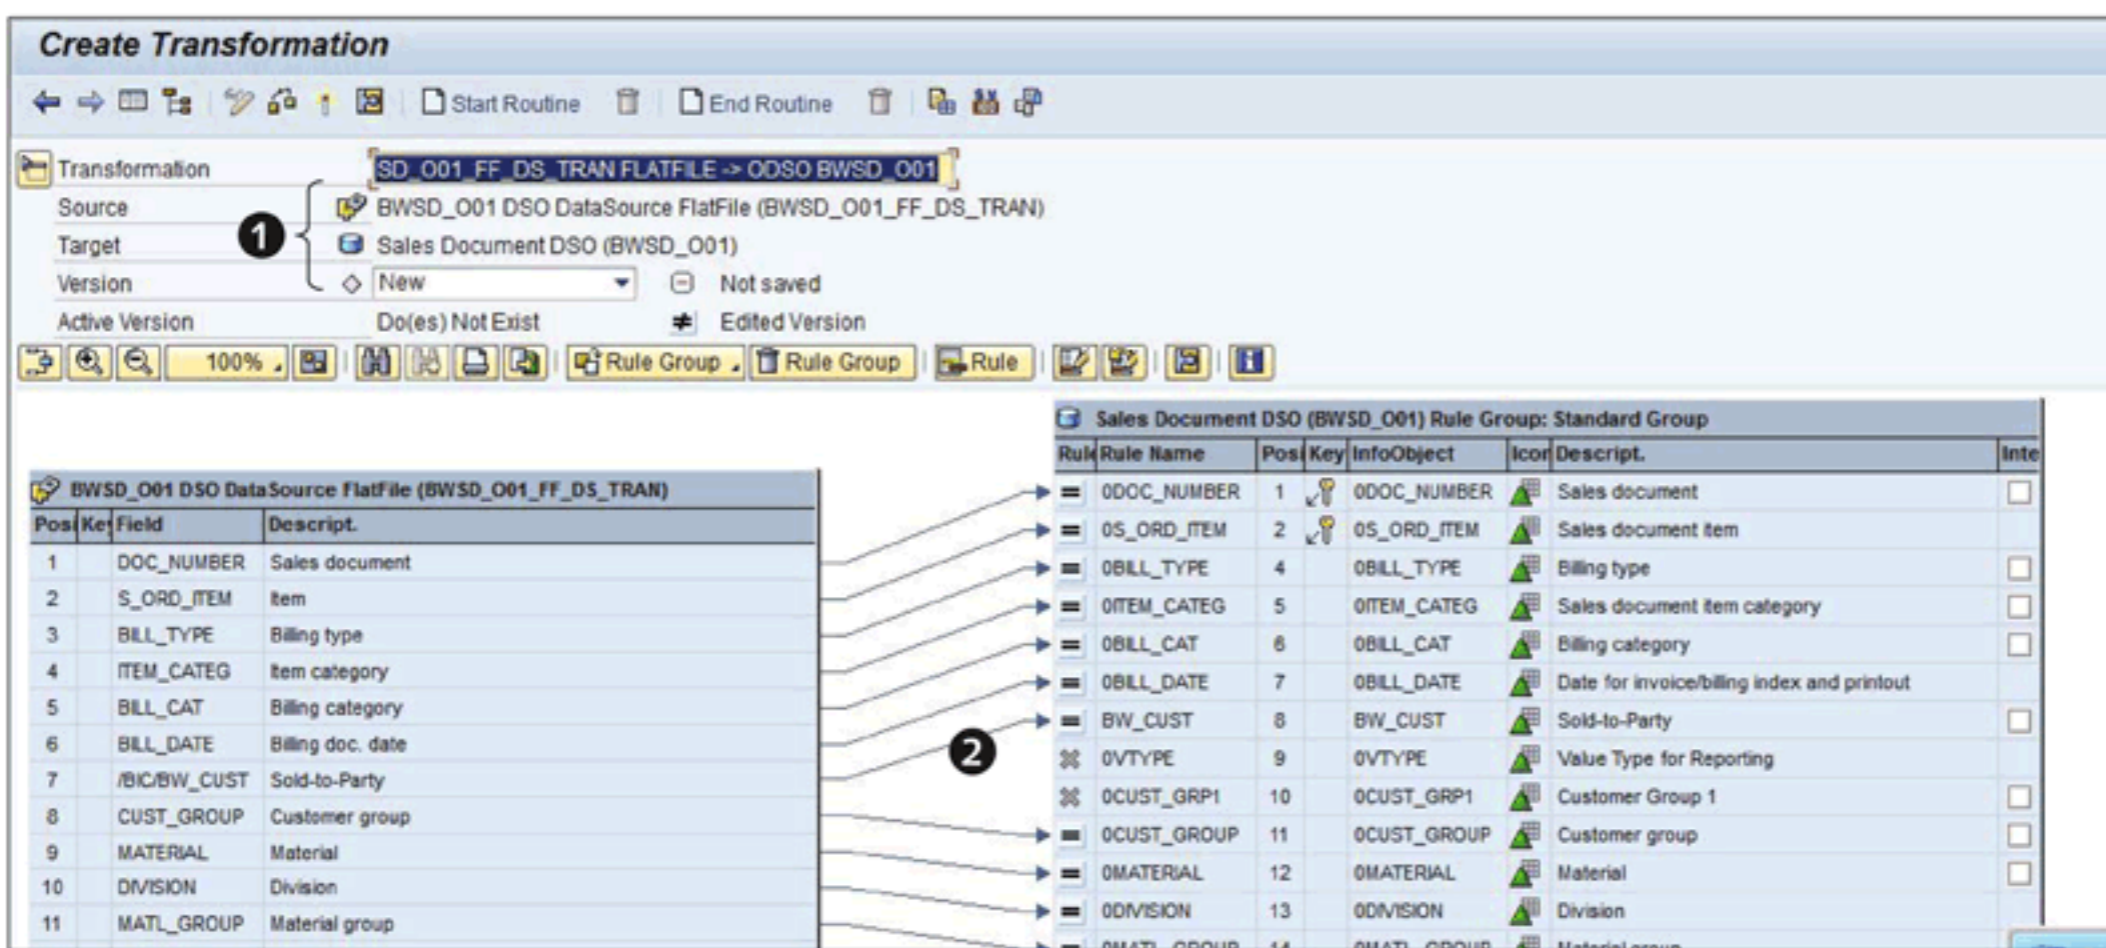

Figure 7.55 Creating a Direct Assignment Transformation
This results in the TRANSFORMATION CREATE screen shown in Figure 7.55, which allows you to create a transformation using drag and drop. As shown in ❶ of Figure 7.55, the source and target object are shown on the left and right, respectively. SAP NetWeaver BW automatically matches the field of the DataSource to the InfoObject and proposes the transformation based on metadata available in the system. This is a direct assignment transformation, meaning that the data
There are two InfoObjects, 0VTYPE and 0CUST_GRP1, which have not had any transformation proposed by the system (❷ of Figure 7.55). The reason for this is that there are no fields in the DataSource that map to these two InfoObjects (as shown earlier in Table 7.4). As such, we must derive the value for these two InfoObjects using the formula and read master data transfer types (recall our discussion of the different types of transformations in Section 7.1.3).